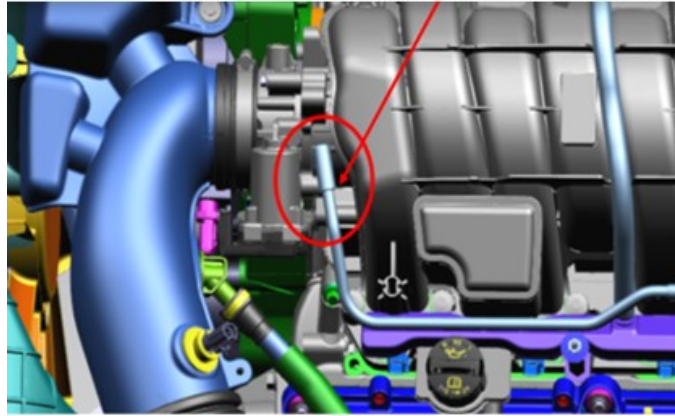

Fig. 1
1. Inspect the purge tube at the elbow on the intake manifold. (Fig. 1)